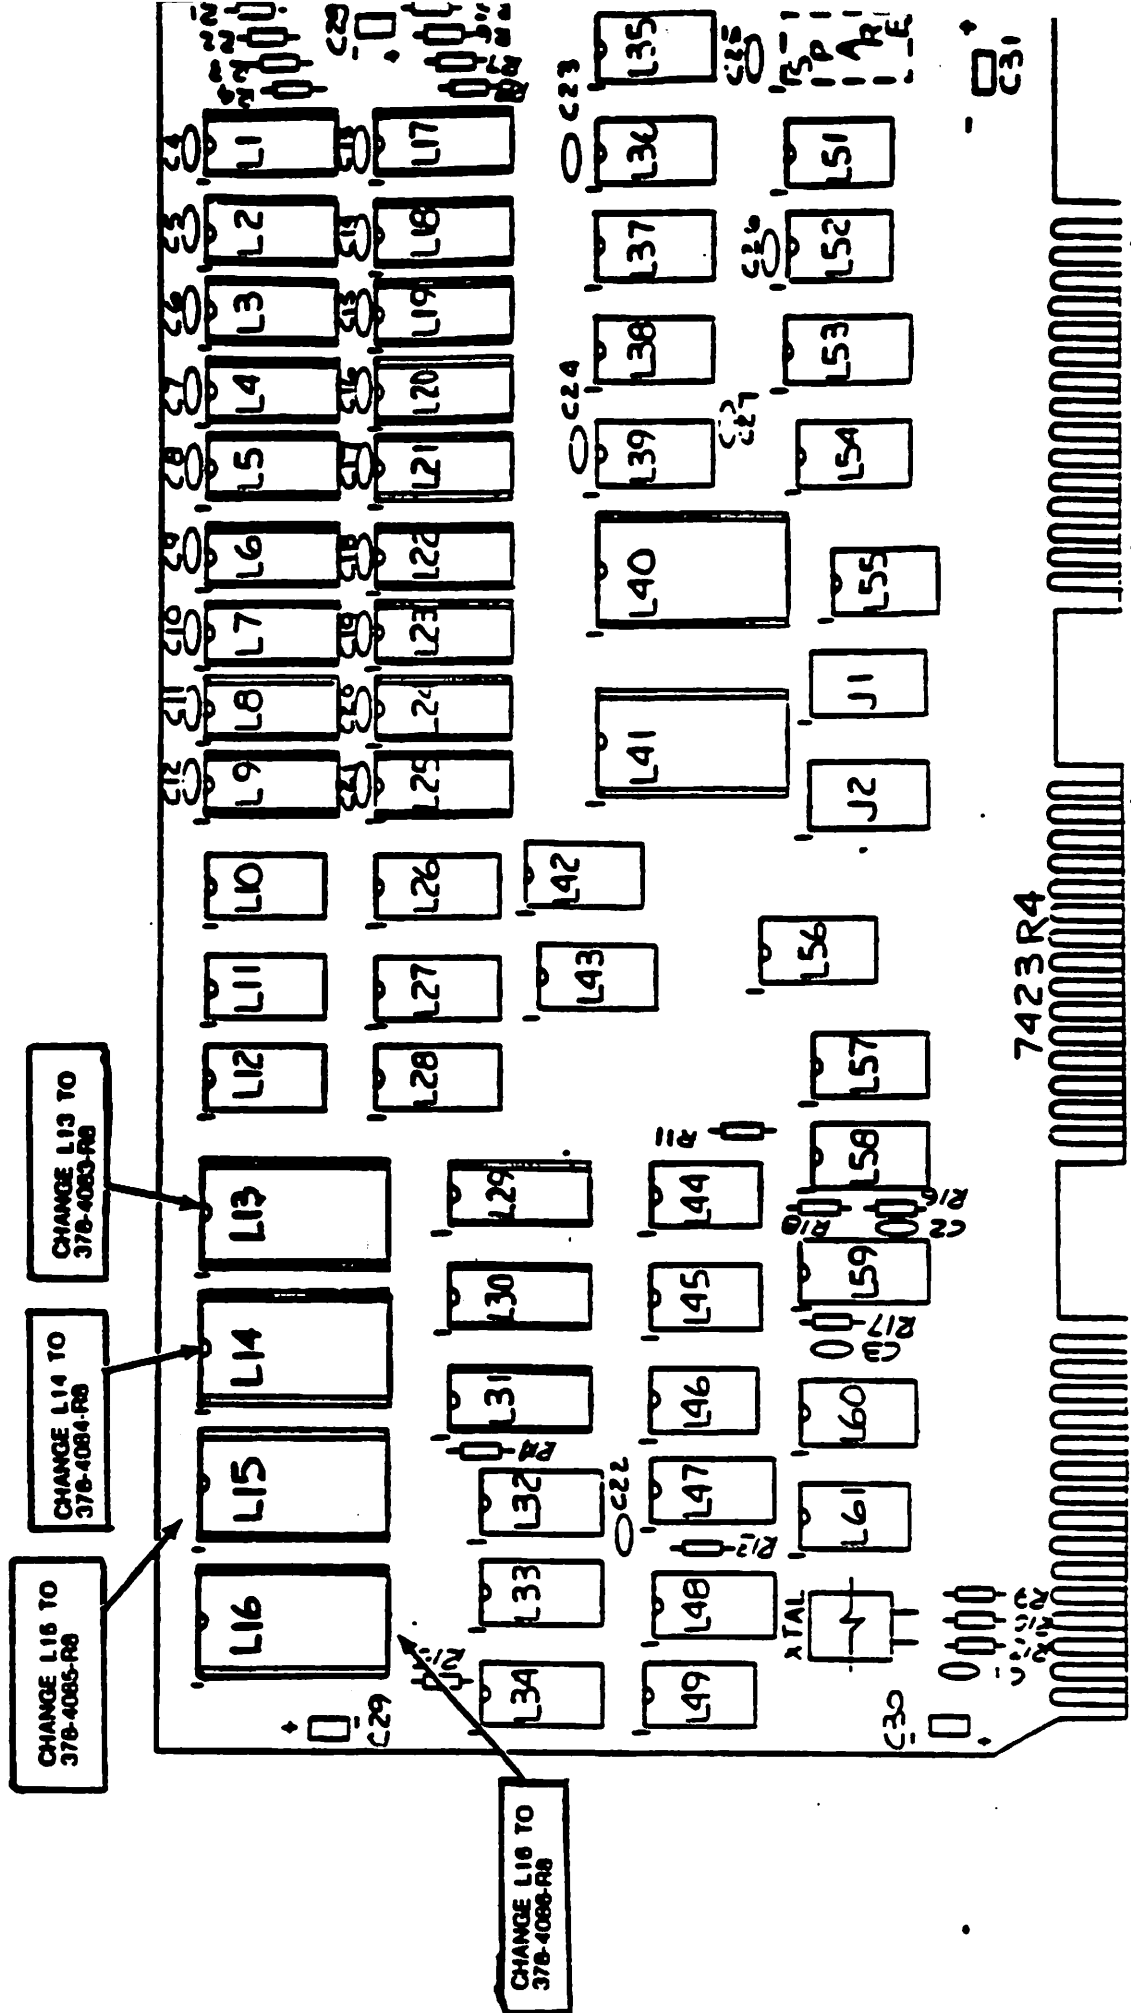

FIGURE 2
**D. Refer to Figure 2. Change PROM's on the 210-7423-A PCA as follows:**